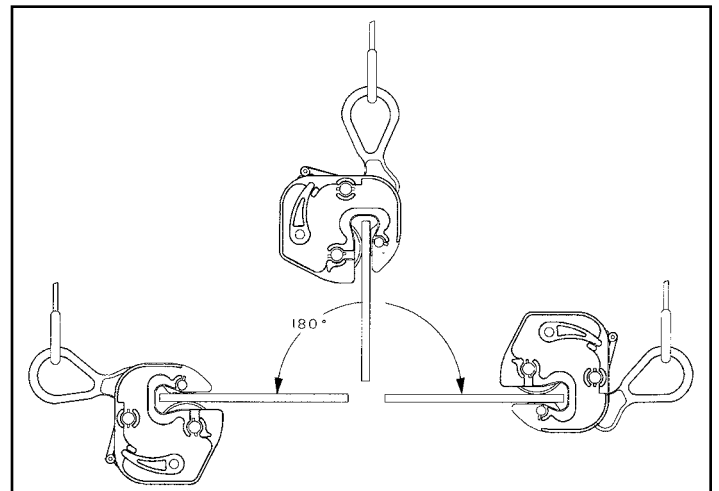

Figure 2
**VERTICAL TURN/LIFT:** Turns a single plate or member from horizontal to vertical through a 90° arc, and back to vertical through the same 90° arc; or from horizontal to vertical to horizontal through 180° arc (Fig. 2).